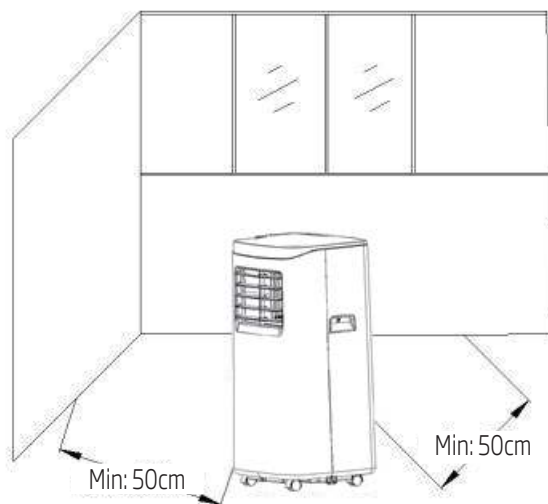

Fig. 4
- 1) Move the machine with installed heat pipe and fittings before the window, and the distance between the body and walls or other objects shall be least 50 cm (as shown in Fig. 4).